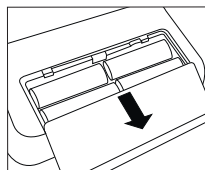

Fig.1
- Open the battery cover on the bottom of the monitor (see Fig. 1). Insert the batteries (see Chapter 13 Technical data). Ensure correct polarity ('+' and '-') when inserting batteries. Close the battery lid. 12 h or 24 h flashes on the display. Set date and time as described below.